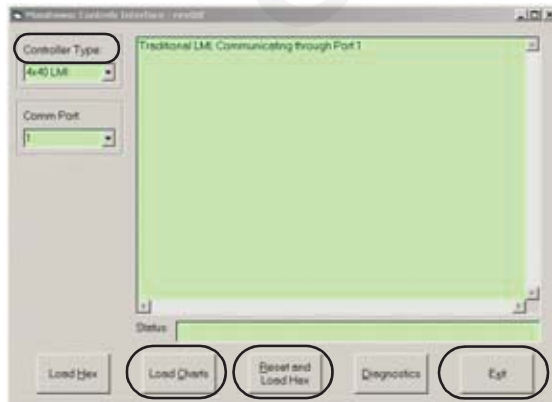

FIGURE 15
3. **Manitowoc Controls Interface - rev00f or newer** screen is displayed (see Figure 15).
8. Select and press **Reset and Load Hex** button in lower center (see Figure 15).
12. Go back to the **Manitowoc Controls Interface - rev00f or newer** screen (see Figure 15).
17. Click **Exit** button on control interface screen (see Figure 15) and disconnect cable. Scroll up or down on display and working screen will return.